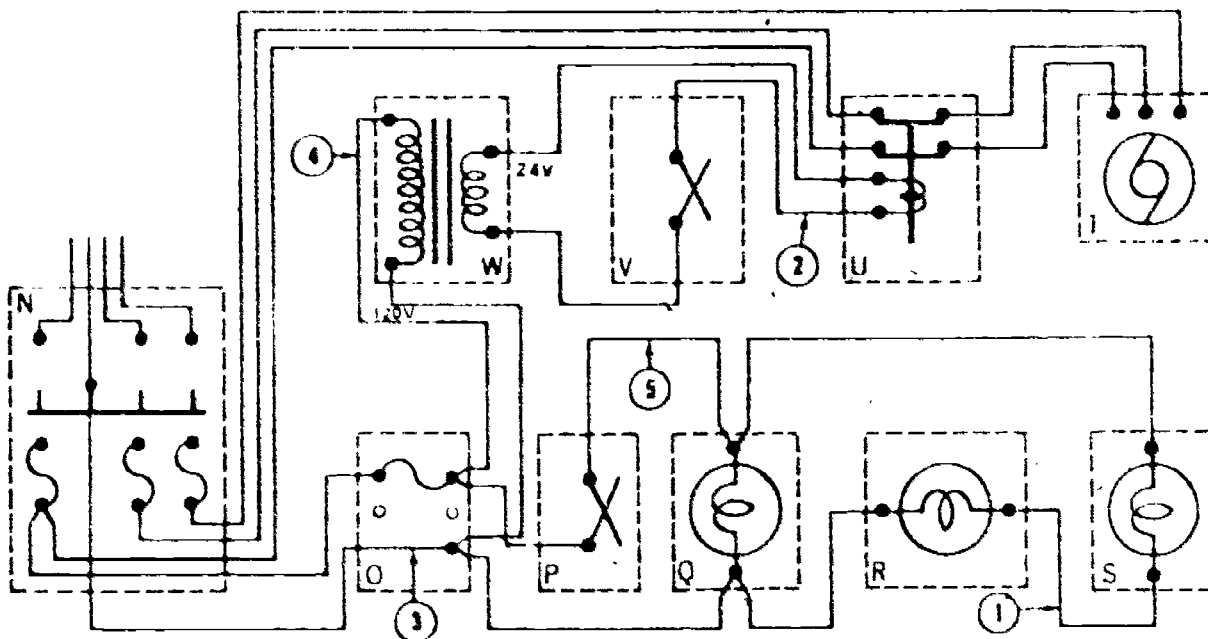

Figure 25. 208-V 60-Cycle, 3-Phase
1. The wires on the diagram in figure 25 have been numbered 1 through 5. Beside each wire number in the spaces below, list the unit by letter that would be inoperative if that specific wire were open.
2. Note that the diagram in figure 25 is that of the trainer assigned to you by the instructor.